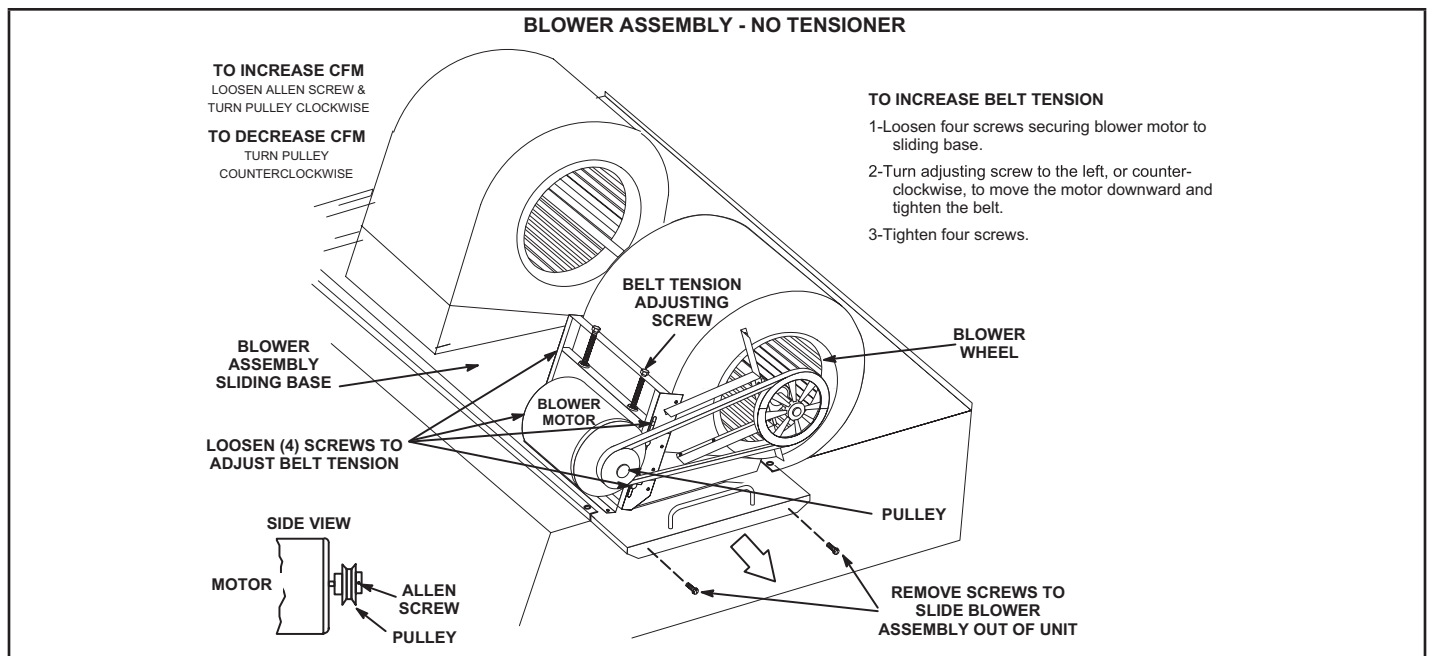

FIGURE 23
The blower compartment is located between the evaporator coil and the compressor / control section on the opposite side of the condenser coil. The blower assembly is accessed by disconnecting the blower motor wiring (and all other plugs) and removing the screws on either side of the sliding base. The base pulls out as shown in FIGURE 23.
- 2 - Remove screws on either side of blower assembly sliding base. See FIGURE 23.
- 4 - The blower RPM can be adjusted at the motor pulley. Loosen Allen screw and turn adjustable pulley clockwise to increase CFM. Turn counterclockwise to decrease CFM. See FIGURE 23. Do not exceed minimum and maximum number of pulley turns as shown in TABLE 10.
- 1 - Loosen four screws securing blower motor to sliding base. See FIGURE 23.